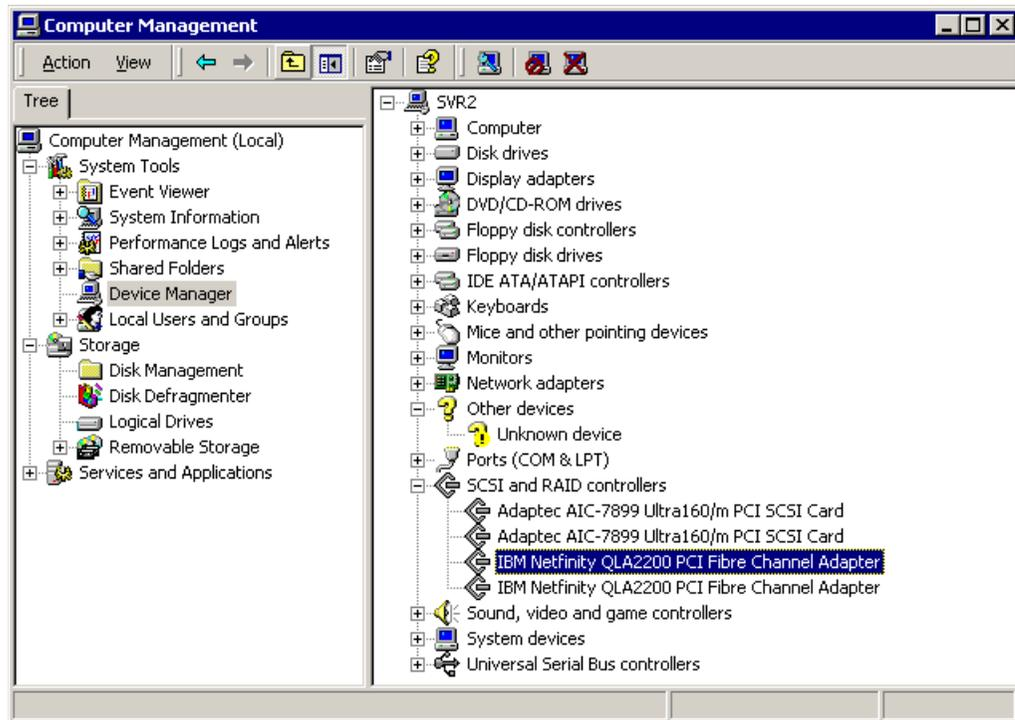

Figure 3-3 Windows automatic device detection
2. Select **My Computer->Manage->Device Manager->SCSI and RAID controllers**. The adapters are listed in Device Manager as shown in Figure 3-3:
3. Highlight the device as shown in Figure 3-3, right-click and select **Properties**. Select the **Driver** tab and you can check the Driver Version as shown in Figure 3-4: